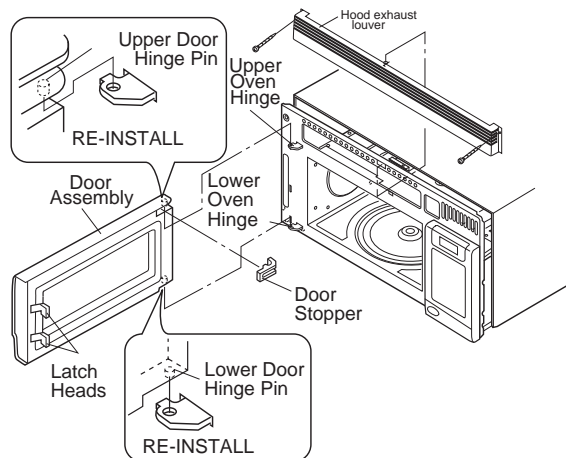

Figure C-2. Door Replacement and adjustment
2. Remove one (1) screw holding the hood exhaust louver to the oven cavity with outer case cabinet, as shown in Figure C-2.
3. Remove the hood exhaust louver from the oven cavity by pushing right and left tabs of the hood exhaust louver, as shown in Figure C-2.